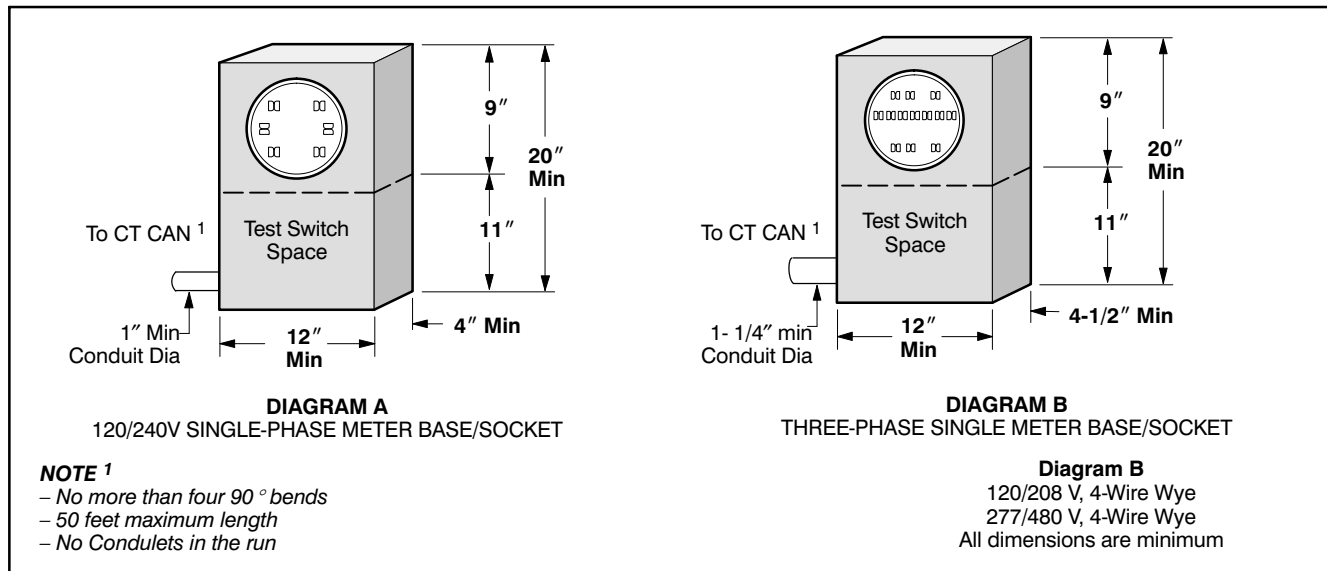

Figure 30 Instrument-rated (CT) meter bases/sockets
120/240 V, 400 A CT services are available at an additional charge. This service requires a different meter base (see *Figure 30*). It also requires additional equipment (**current transformer (CT) enclosure**, conduit, CT mounting bracket, etc.). The CT enclosure must be located on the outside of the structure that it serves. Contact your *CCS Representative* for more information.
The process and cost of obtaining your temporary underground service can vary, depending on the location of our existing facilities. If there is a power stubout, handhole, pedestal, or transformer located on your property *adjacent to our existing facilities* (see *Preface, Figure 1*), engineering may not be required. Simply install your temporary service facilities (see *Figure 30 and Figure 31*), obtain an electrical inspection, and call PSE to connect your temporary service.